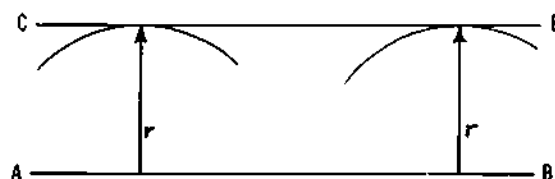

Figure 5-16. Constructing Parallel Lines
**Construct parallel lines at a given distance** Given line AB and  $r$  the required distance, from any two points on AB as centres, and radius  $r$ , describe arcs (Figure 5-16). Draw line CD tangential to both arcs.